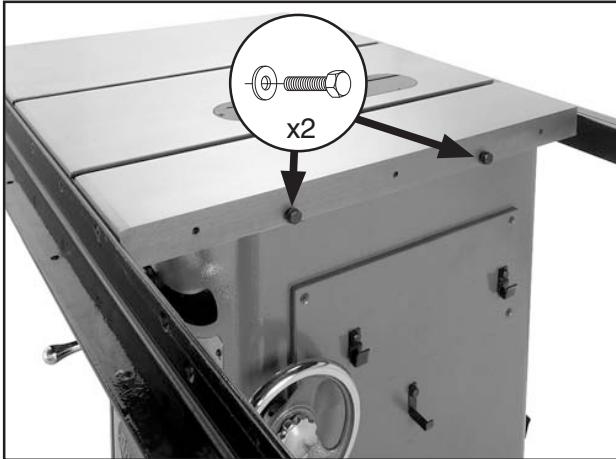

Figure 29. Hex bolts installed.
1. Thread (2) M10-1.5 x 25 hex bolts with 10mm flat washers onto the right side of the main table, as shown in **Figure 29**. Do not fully tighten the bolts.